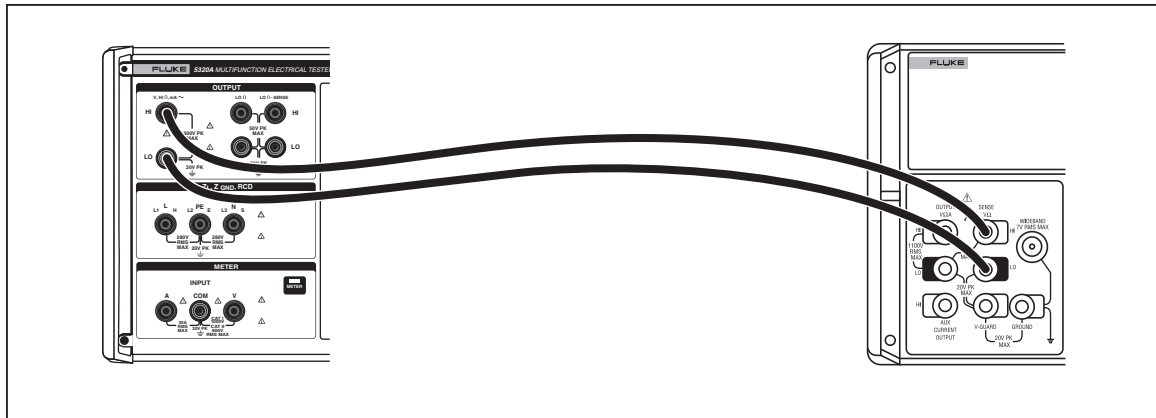

Figure 3-20. Leakage Current Calibration Connections
1. Connect the Fluke 5520A to the Calibrator’s output terminals as shown in Figure 3-20.